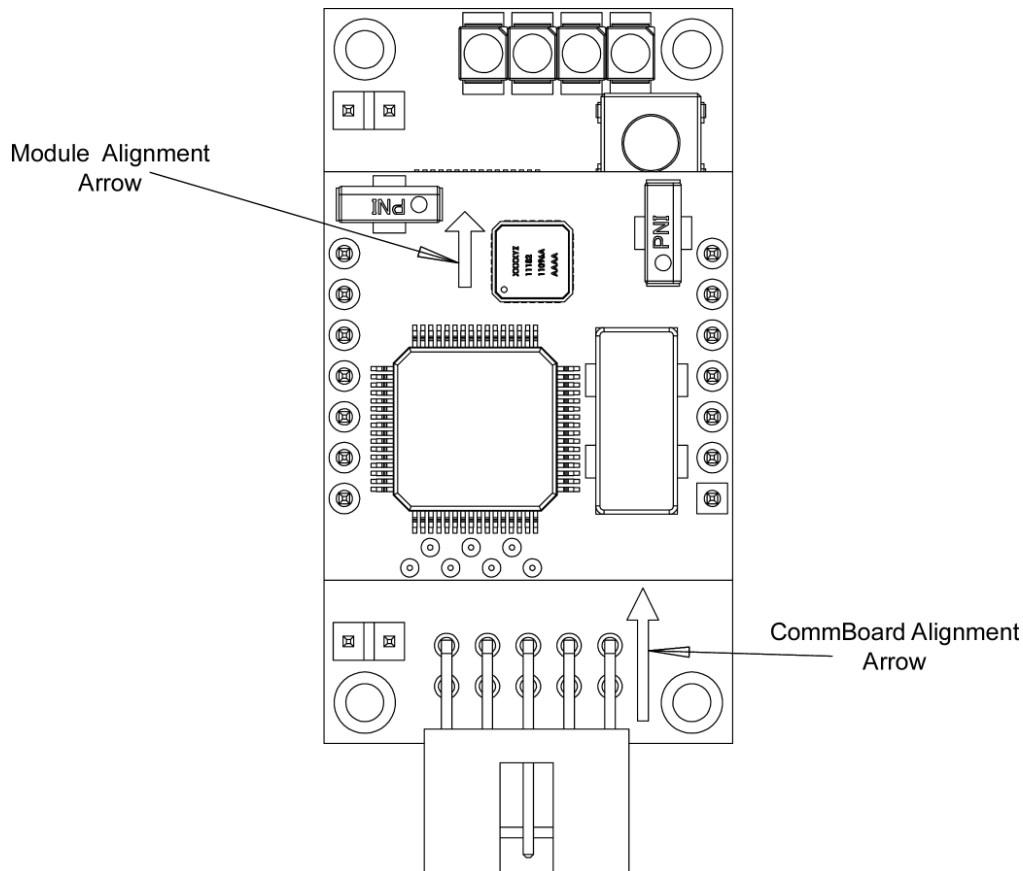

Figure 6: CommBoard with Module Plugged-In
- The alignment arrows in **Figure 6** are defined as pointing in the forward direction.
During installation, ensure that the white silk-screened arrows on both the stacked board and the CommBoard are pointing towards CommBoard LEDs. Do not misalign or plug the stacked board into the 7-pin headers backwards. Refer to **Figure 6** and to **Figure 7**.